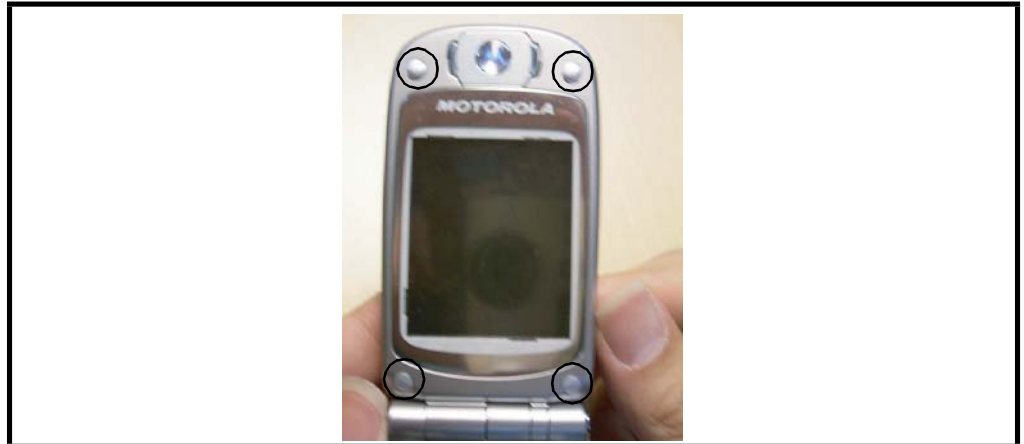

Figure 8. Removing the 4 Cap Screws
2. Use a tweezers to remove the 4 cap screws from the front housing as shown in Figure 8.